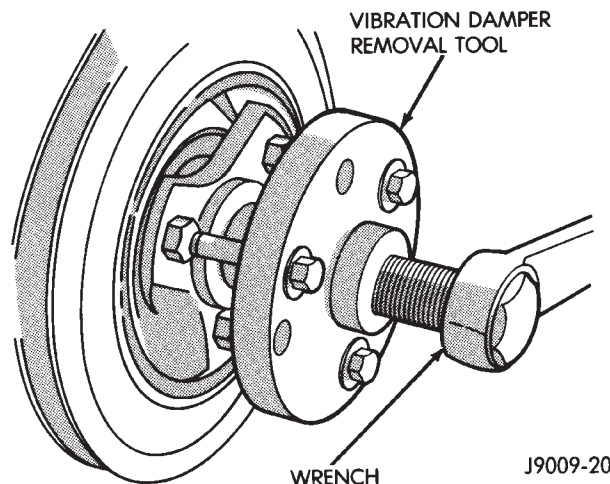

Fig. 35 Vibration Damper Removal Tool 7697
(1) Disconnect negative cable from battery.
(2) Remove the serpentine drive belt and fan shroud.
(3) Remove the vibration damper retaining bolt and washer.
(4) Use Vibration Damper Removal Tool 7697 to remove the damper from the crankshaft (Fig. 35).